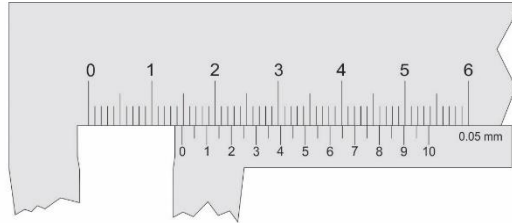

Figure 7 A vernier caliper with a 0,05 mm resolution
6. The least count or resolution of the vernier caliper in **figure 7** is 0.05 mm, not like the previous examples that were 0.02mm. In this case the vernier divisions represent 0.05 mm. What is the reading in this case?